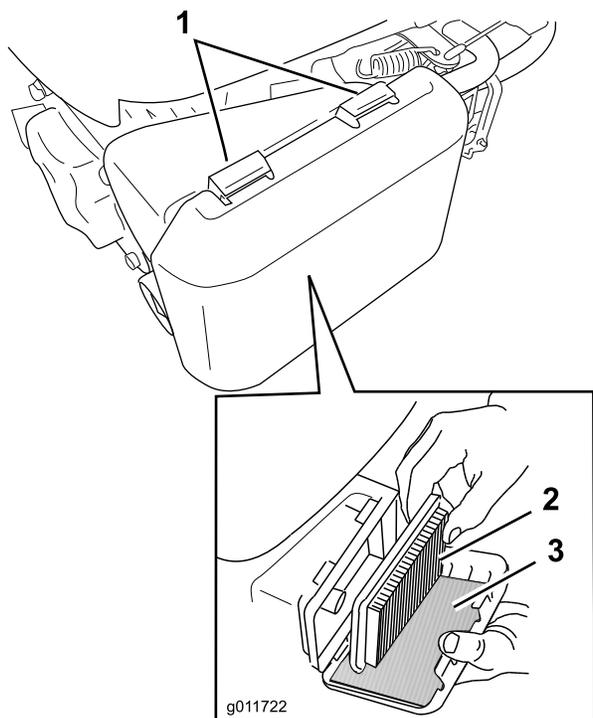

Figure 24
1. Press down on the latch tabs on top of the air cleaner cover (Figure 24).
3. Remove the paper air filter and the foam pre-filter (Figure 24).